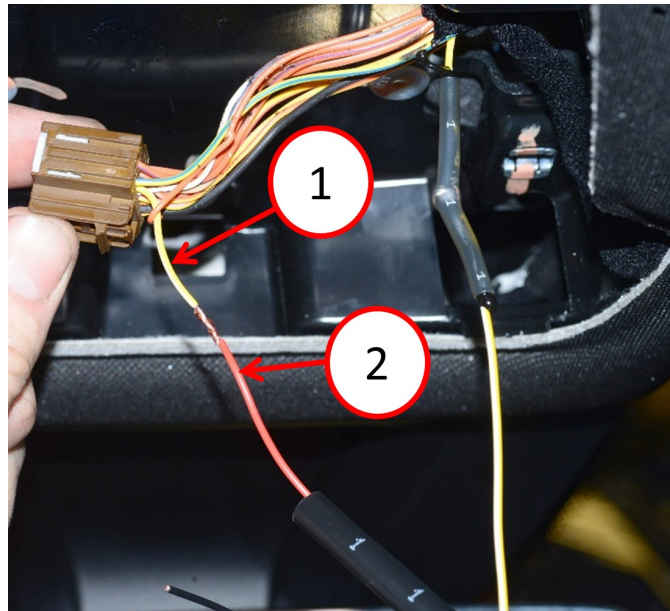

Fig. 5
13. Position heat shrink onto the red jumper harness wire and connect the red wire to the cut dome lamp yellow/white wire connector side (pin 6) Fig. 5. **Do not heat the heat shrink tubing.**
14. Solder the red jumper harness wire to the yellow/white dome lamp connector wire (pin 6) Fig. 5.